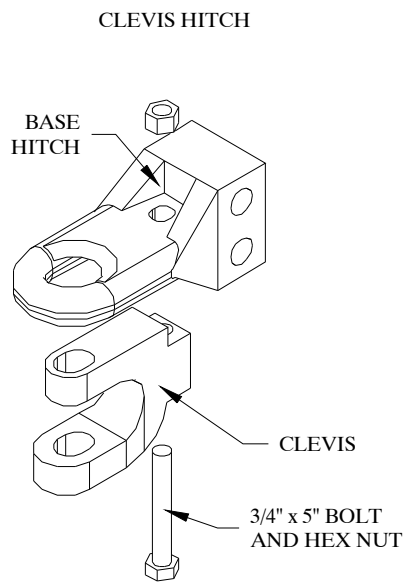

**Figure 2**
1. Bolt the square frame to the A-frame. Refer to Figure 2. Use sixteen 5/8" x 2" bolts, lock washers, and hex nuts.